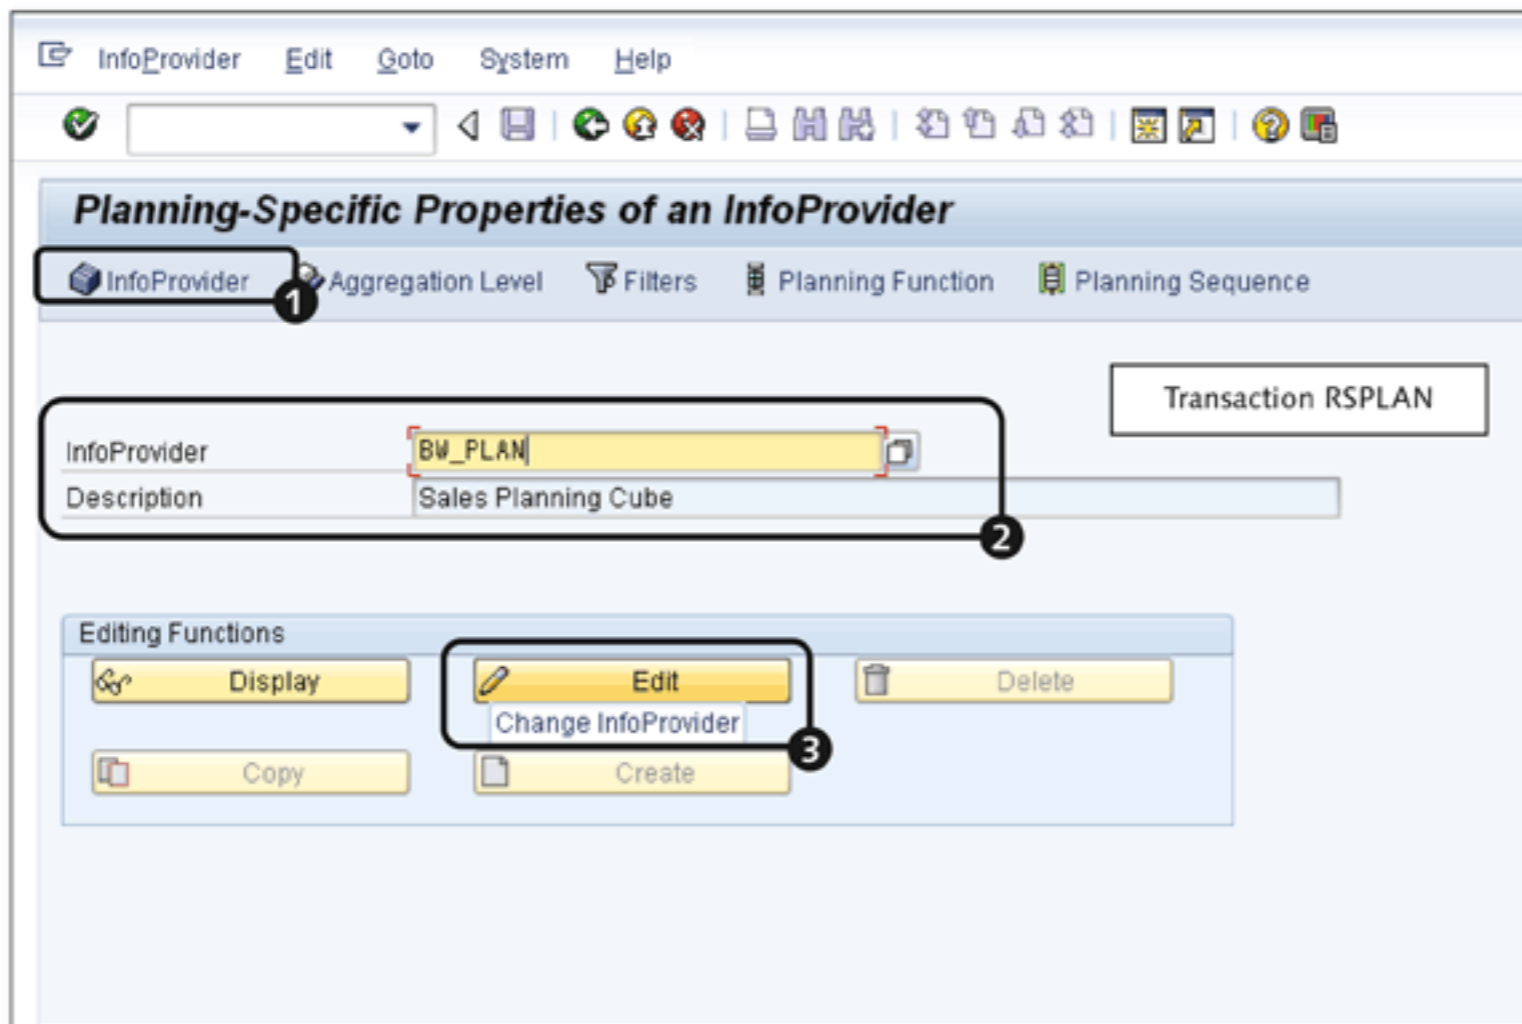
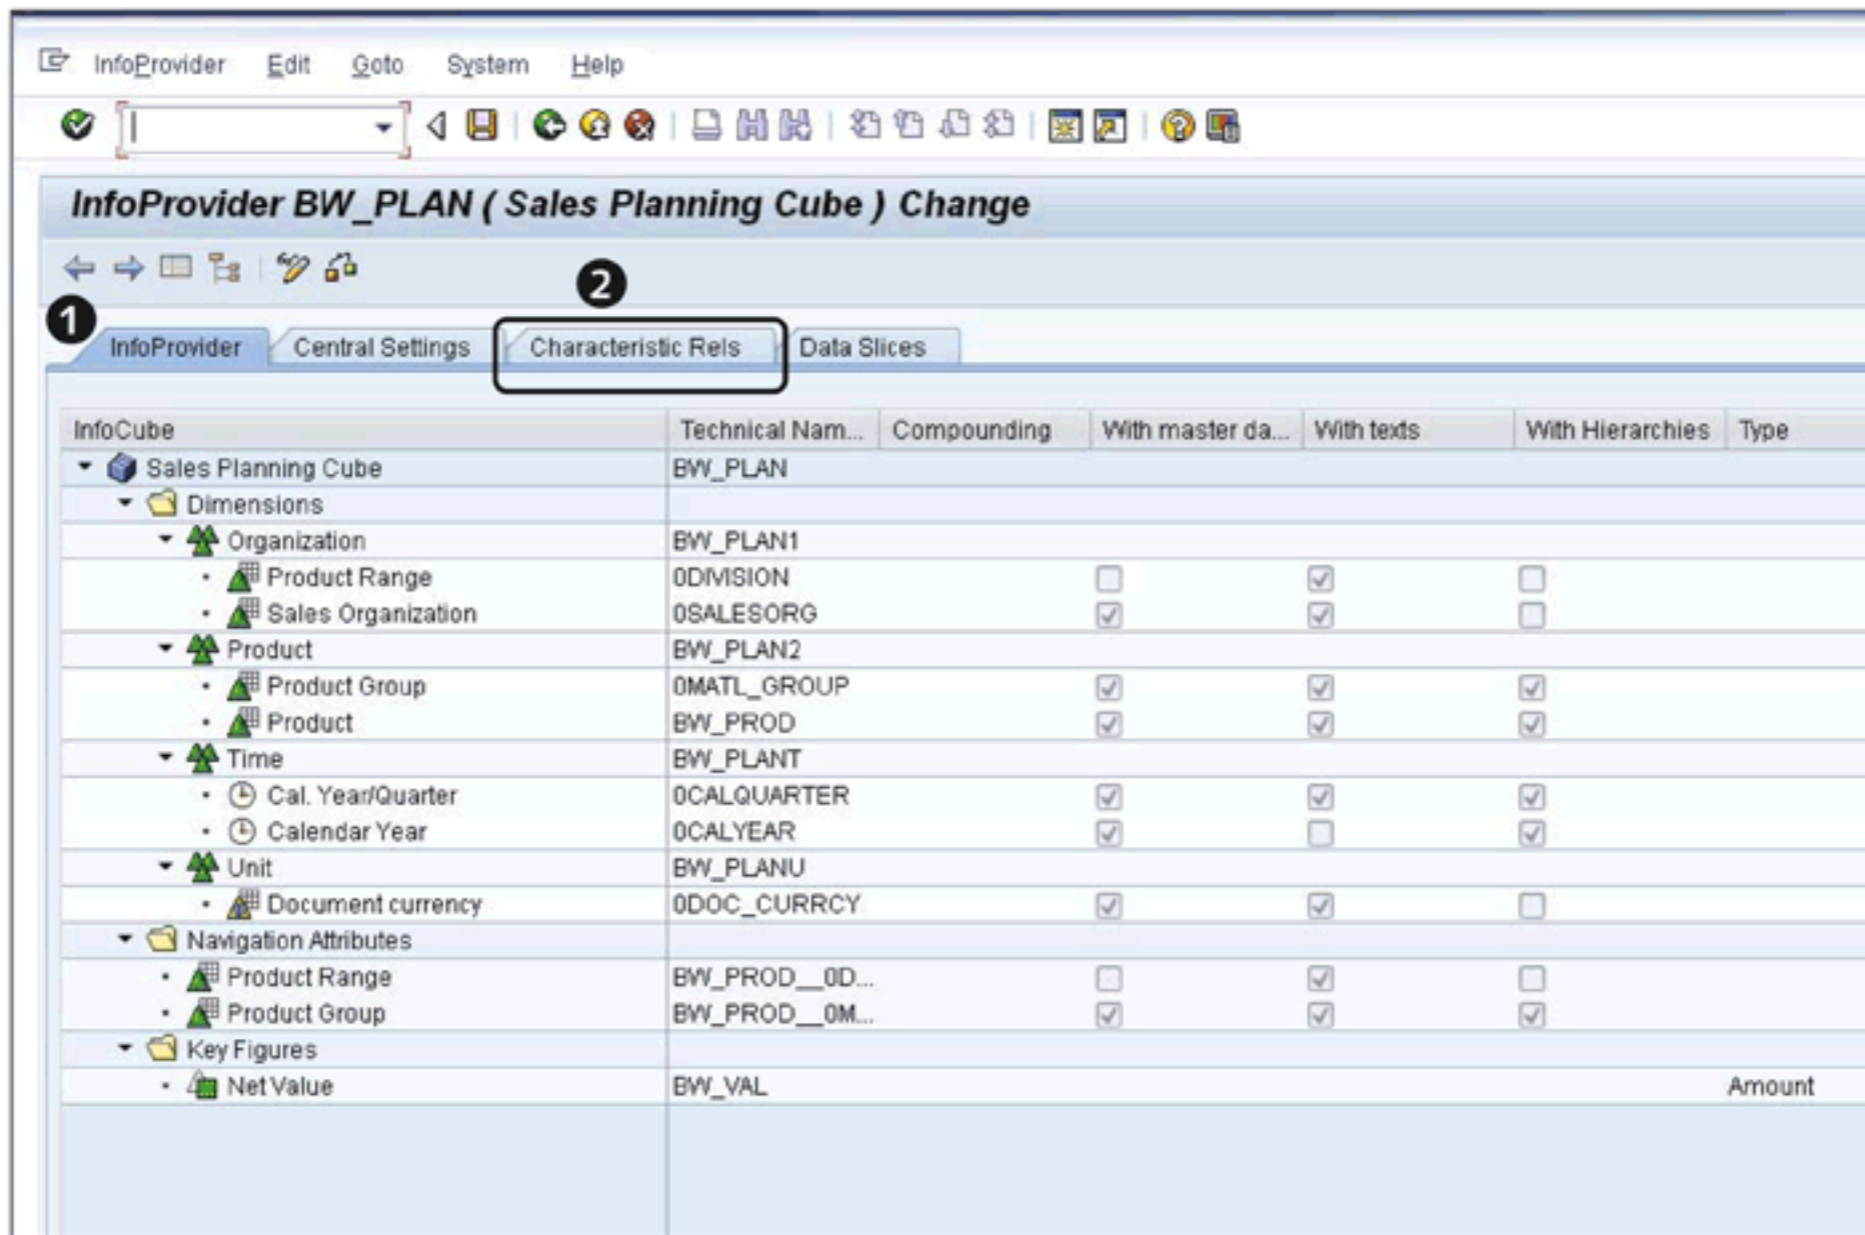

Figure 12.12 Select InfoProvider to Define Characteristic Relationship
Figure 12.13 Go to Characteristic Relationships Tab
You can create characteristic relationships in the INFOPROVIDER section in Transaction RSPLAN (❶ of Figure 12.12).
Enter the InfoProvider on which the characteristic relationship has to be defined. In this case, we select the SALES PLANNING CUBE (BW_PLAN) that we created earlier (❷ of Figure 12.12). Then click on EDIT (❸) to move to the next screen, which shows the definition of the selected InfoProvider (❶ of Figure 12.13).
The other three tabs that are displayed are CENTRAL SETTINGS, CHARACTERISTIC RELS, and DATA SLICES. Click on the CHARACTERISTIC RELS tab to create a characteristic relationship (❷ of Figure 12.13).